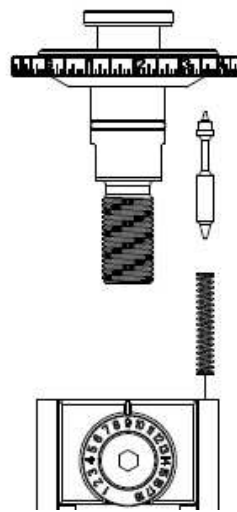

Figure 12
1. The wire crimp height adjusts can be locked in position by changing the Detent Pin orientation (see Figure 12).